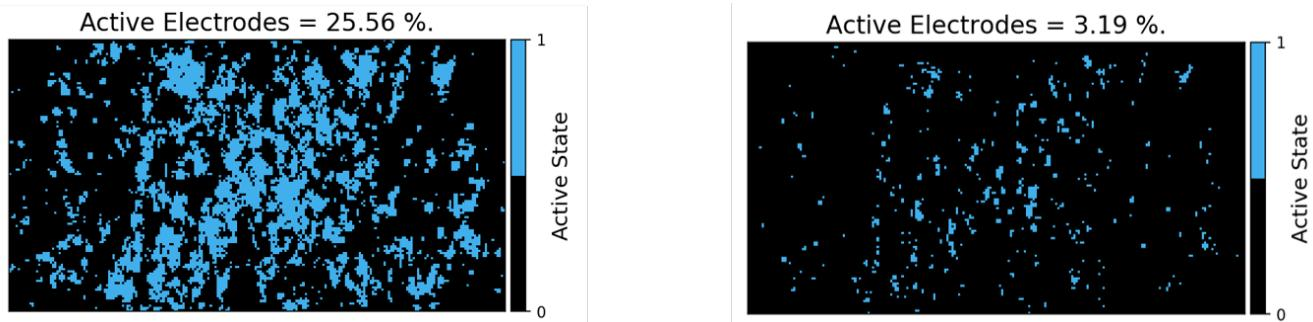

Figure 9.4. Higher Amplitude and Firing Rate Thresholds Restrict Active Electrode Selection
- The sparsity of the binary color map (difference illustrated in Figure 9.4).
- The percentage of active electrodes (difference illustrated in Figure 9.4).